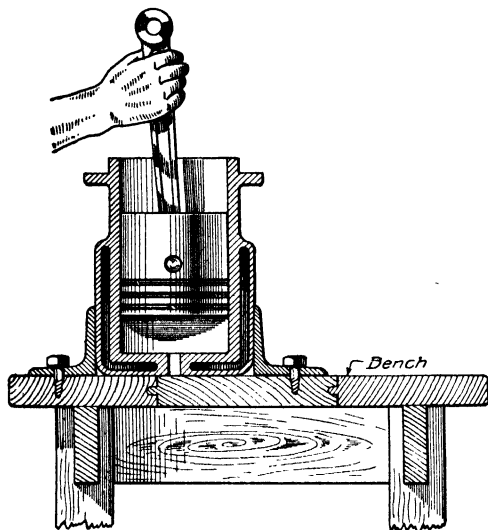

Fig. 25. Cleating Casting to Bench
*Cleating Down the Casting.* Probably the best and easiest way to support the casting is by cleating it to the bench, as shown in Fig. 25. If the motor is a four- or six-cylinder block-cast type, use three sets